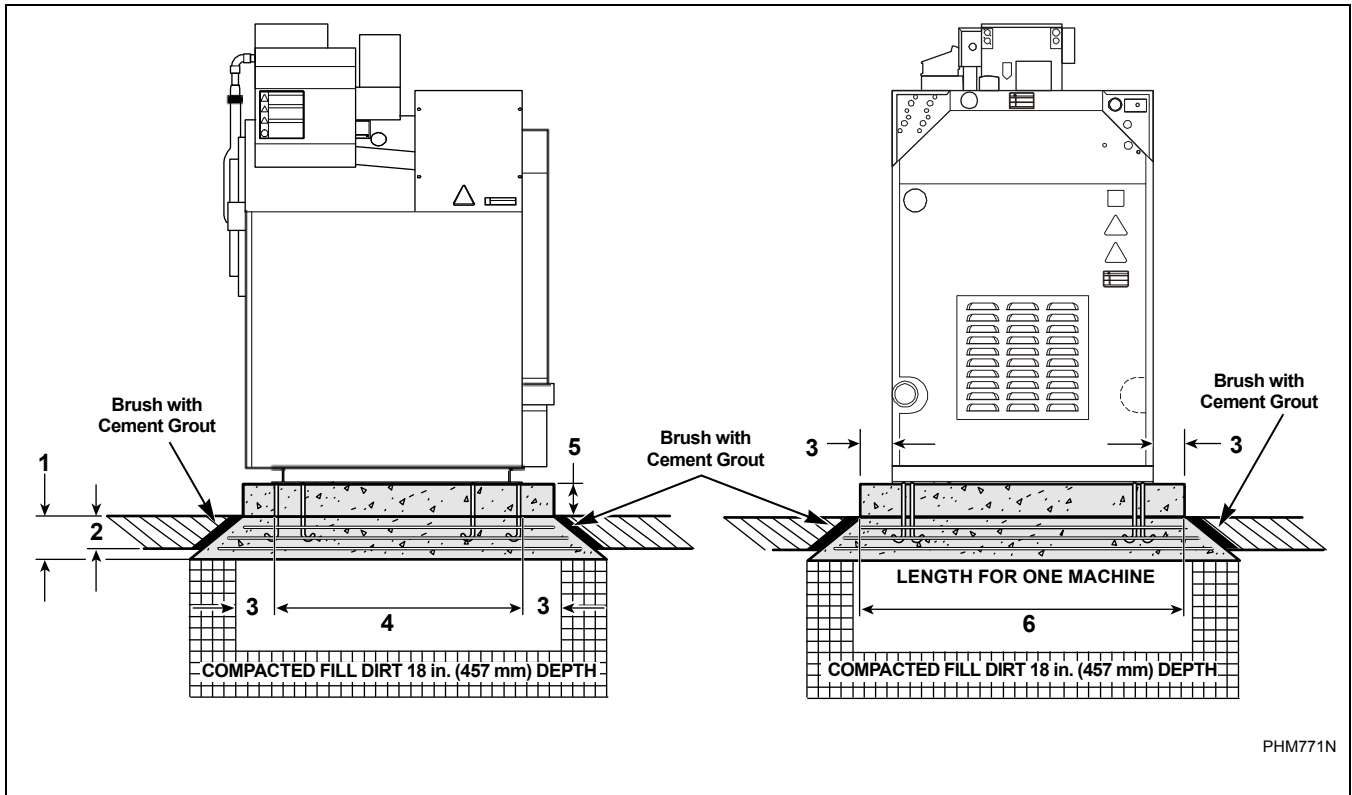

Figure 5
A concrete foundation and pad may be constructed to elevate the machines. Care must be exercised in the design of the foundation pad due to the force exerted by the machine during extract. This concrete base (recommended not to exceed 8 inches [20.32 cm]) (above existing floor) must be poured, reinforced with rebar and tied to the existing 6 inch (153 mm) (for 35 and 60 2-speed, L-speed and M-speed models) or 12 inch (305 mm) (for all other models) minimum floor. Refer to *Figure 5* and *Table 2*.
If the existing floor is not reinforced concrete at least 6 inch (153 mm) (for 35 and 60 2-speed, L-speed and M-speed models) or 12 inch (305 mm) (for all other models) thick over a solid foundation, the following steps must be performed (refer to *Figure 5*):
**NOTE: If installing expansion bolts into an elevated concrete foundation pad, the concrete foundation pad should extend a minimum of 9 inches (229 mm) for 35 machines or 12 inches (305 mm) for 60 - 150 machines out from the machine base on all sides. Refer to *Figure 5*.**